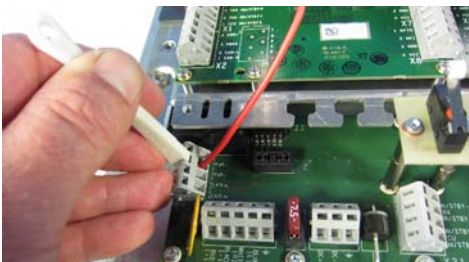

Figure 5: Connecting wires between TCU and SAILOR 6195
7. Connect the wires between the TCU and the SAILOR 6195 as shown in Figure 5 and 6 below.